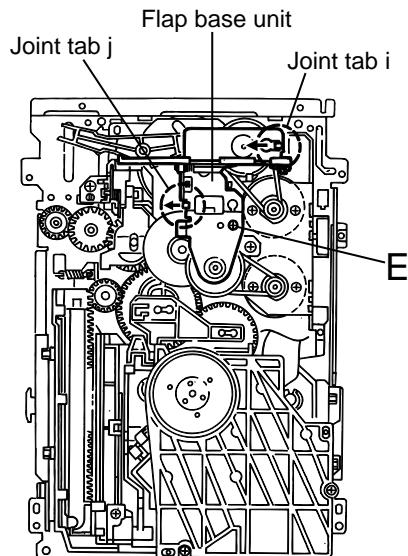

Fig.13
■ Removing the flap base unit and the gear base unit (See Fig.13 and 14)
- Prior to performing the following procedures, remove the servo control board, the top cover, the tray unit, the side unit (L) and the side unit (R).